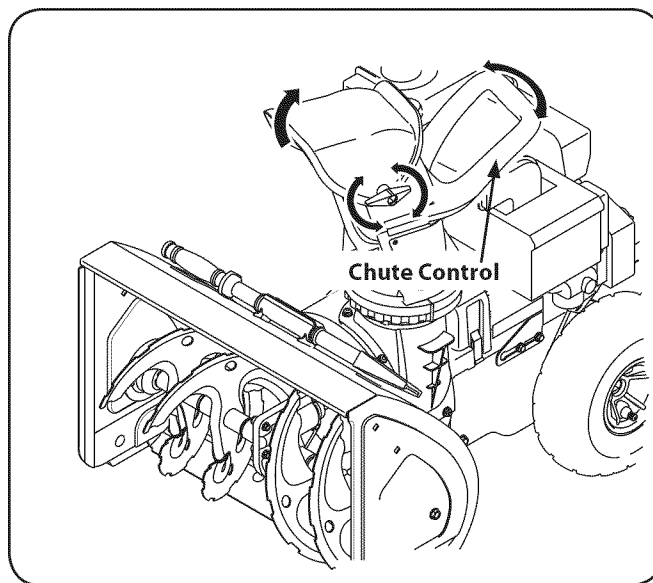

Figure 3-7
2. Tighten the wing knob on the upper chute making sure the carriage bolt is correctly positioned. Refer to Fig. 3-7.